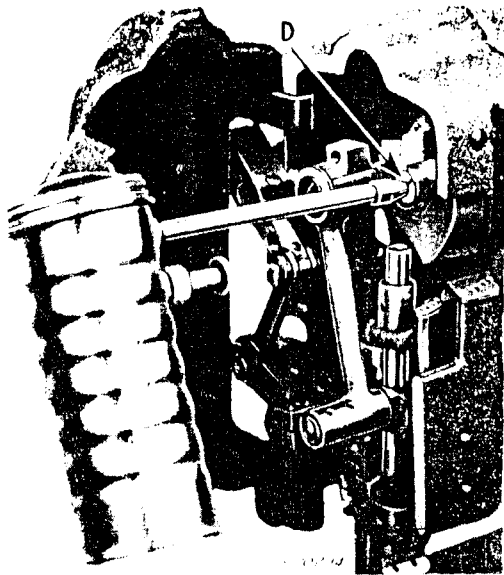

Fig. 6
USE ONLY THE PRESSURE OIL CAN NO. 22849T FURNISHED WITH THE MACHINE, AS SHOWN IN FIGS. 6 AND 8.
1. To fill arm shaft oil reservoir, insert spout of pressure oil can in hole **D**, **Fig. 6** and inject 6 shots of oil into shaft.
Fill arm shaft oil reservoir **D**, **Fig. 6** (approximately 6 shots of oil).